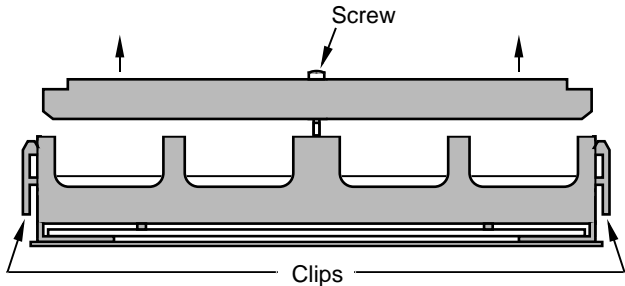

Figure 3-3
3. Referring to Figure 3-3, remove the top half of the cable clamp as follows: